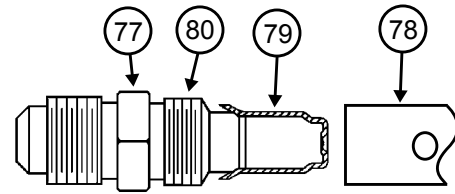

Fig. 11 - Burner/Orifice Assembly
5. Remove the flare nut from the orifice assembly [77] (See Fig. 11).